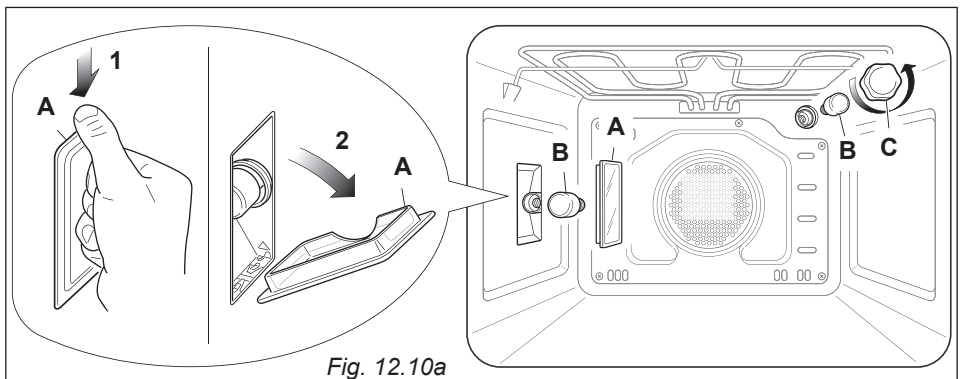

Fig. 12.10a
- Remove the protective cover “C” (fig. 12.10a).
- Press down from the top the protective cover “A” (fig. 12.10a) and remove it by rotating on the lower side.